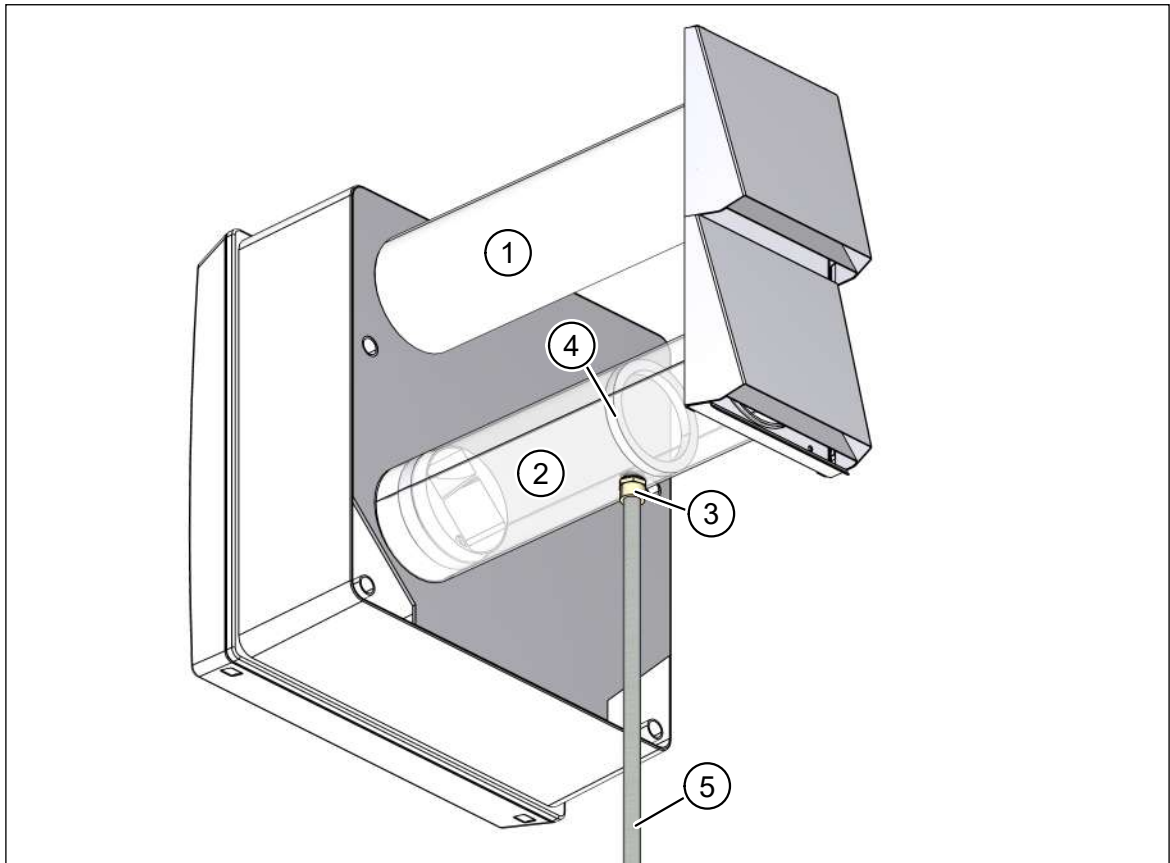

Fig. 61: Condensate drain on the exhaust air pipe
- Outdoor air pipe, DN 100, 0.5 m (item 1 in Fig. 61)
- Exhaust air pipe, DN 100, 0.5 m (item 2 in Fig. 61), with 1/2" male thread connection (item 3 in Fig. 33) and barrier (item 4 in Fig. 61) for retaining the condensate.
- In cold regions, protect the condensate drain pipe (item 5 in Fig. 61) against frost, e.g. by running it behind the facade insulation.